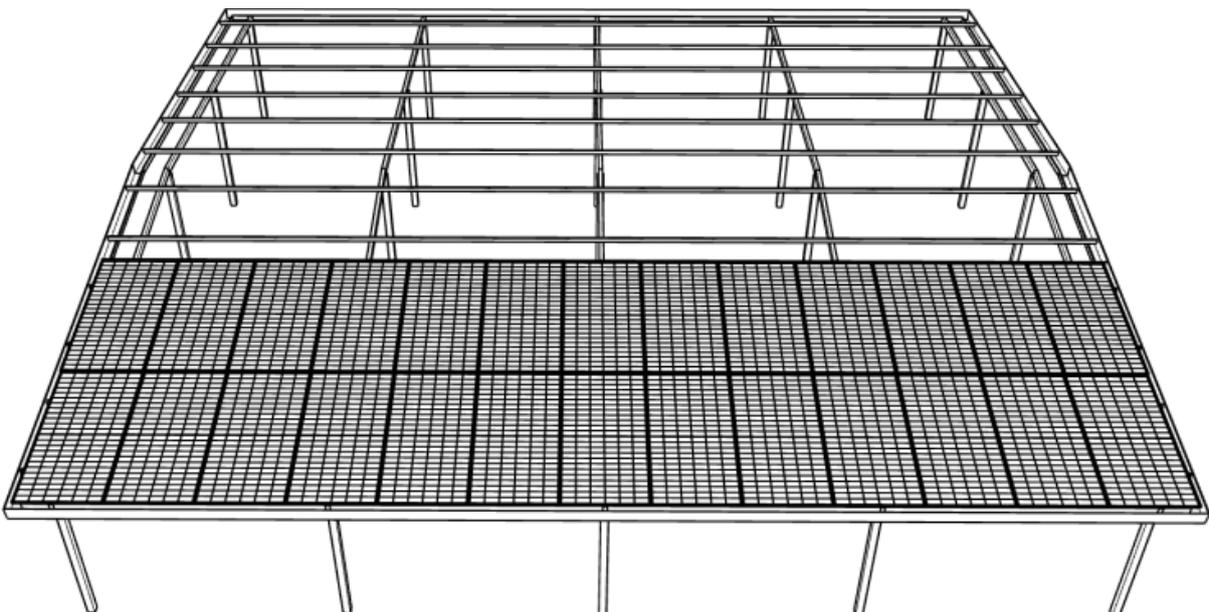

FIGURE 26
- The products are fixed according to the installation method of the first row of products, which are installed one by one, until the entire second row is installed (Figure 26).